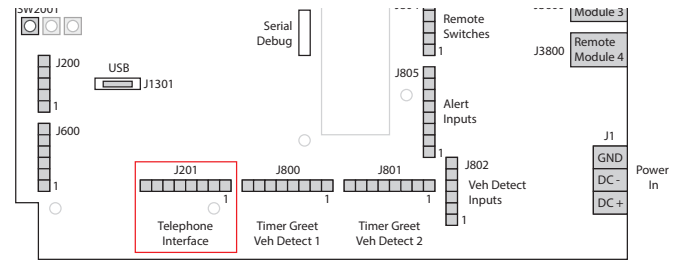

Fig. 11.3
4. Plug one end of the included base station interface cable into the RJ45 port on the TI7000. Open the base station and connect the other end to J201 on the base station PCBA. See Fig. 11.3 for J201 location.)